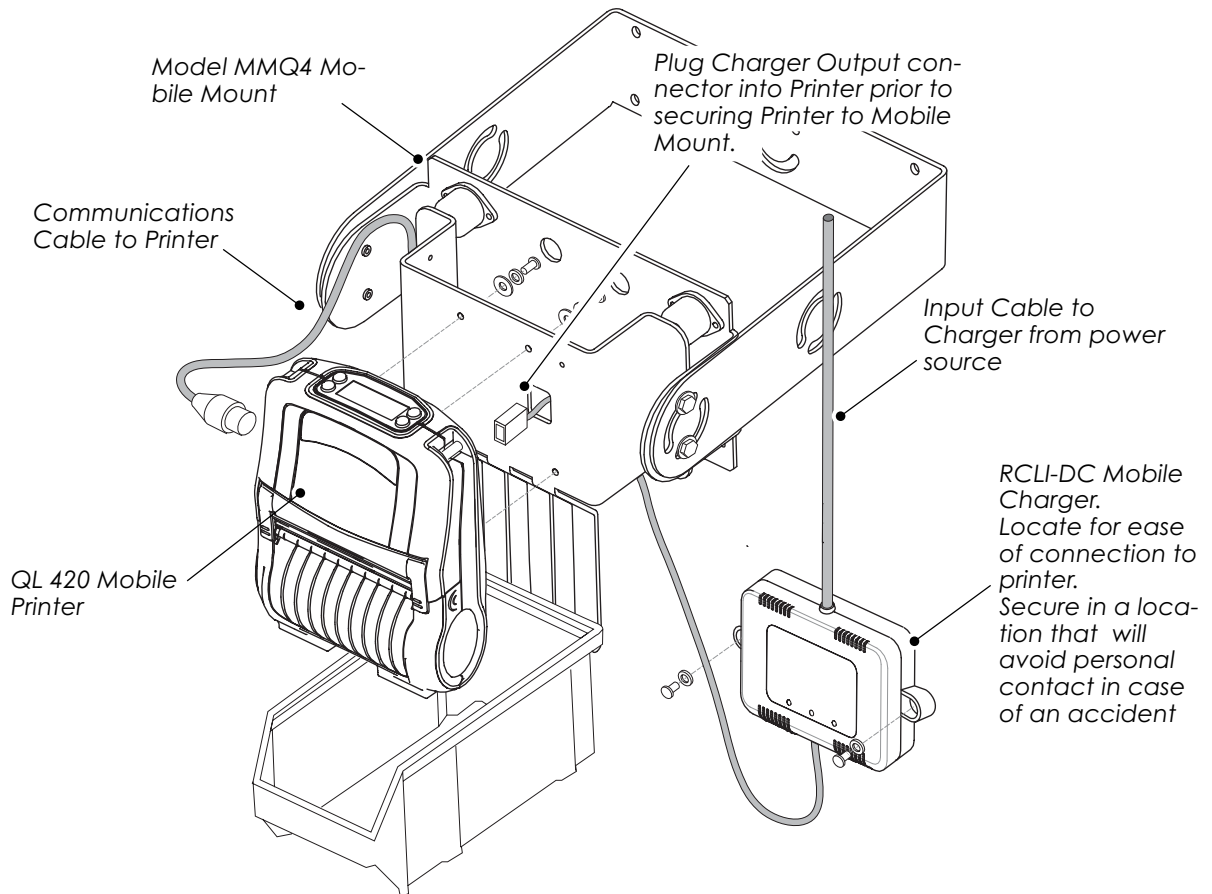

Figure 2
- Plug the output cable from the Charger to the battery connection on the printer. (Refer to the QL 420 User's Manual for more information.) If you are using a MMQ4 Mobile mount, it may be easier to plug in the charger connector before mounting the Printer to the Mobile Mount bracket. See Figure 2.